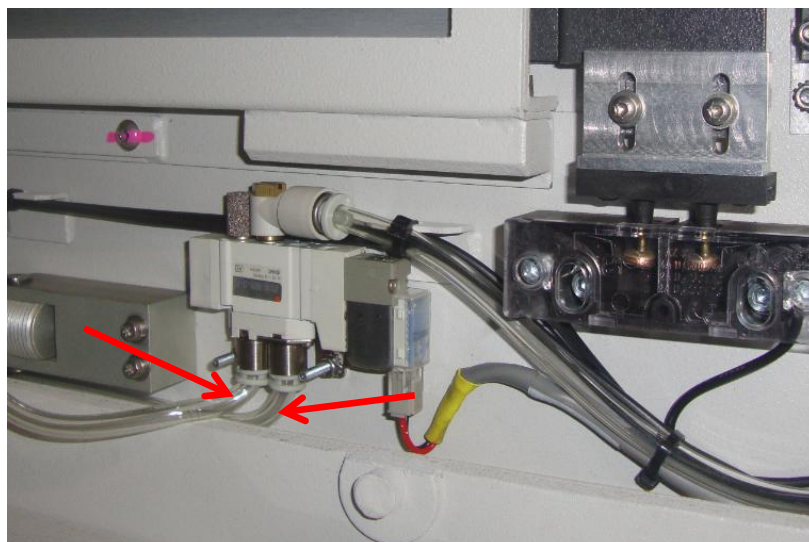

Figure 4
6. Remove 2 x Tubing from Outer Barrier Solenoid Valve (Outlet Port) as below Figure 4.